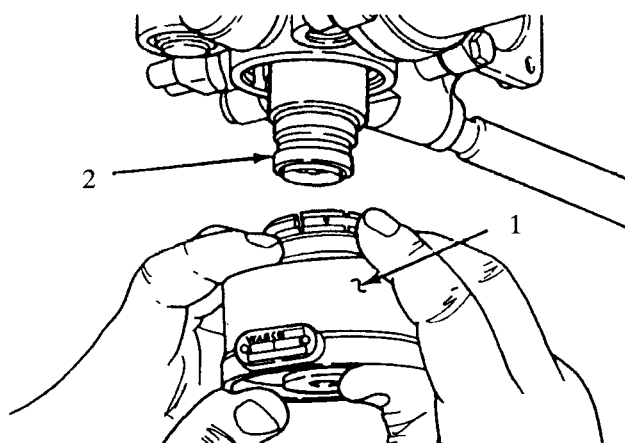

Figure 81 Silencer (Muffler)
8. Silencer (Muffler) (Optional feature) (Figure 81).